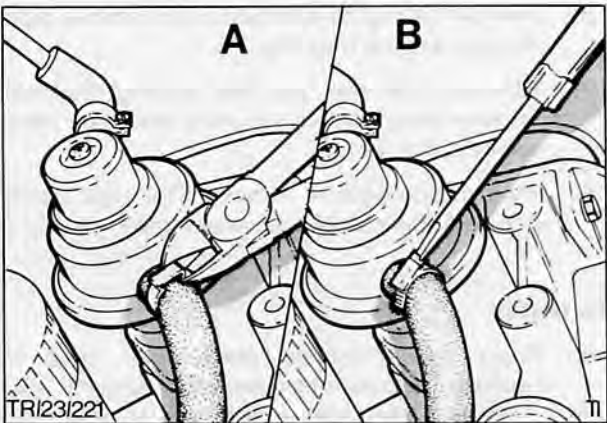

Fig. 78. Disconnecting and reconnecting fuel pump outlet hose
- NOTE: If a crimped type hose clamp is fitted it must cut free and replaced with a screw type hose clamp, Fig. 78.
11. Reconnect pipe to fuel pump, Fig. 78.
NOTE: If a crimped type hose clamp is fitted it must be cut free and replaced with a screw type hose clamp, Figs. 78 and 79.